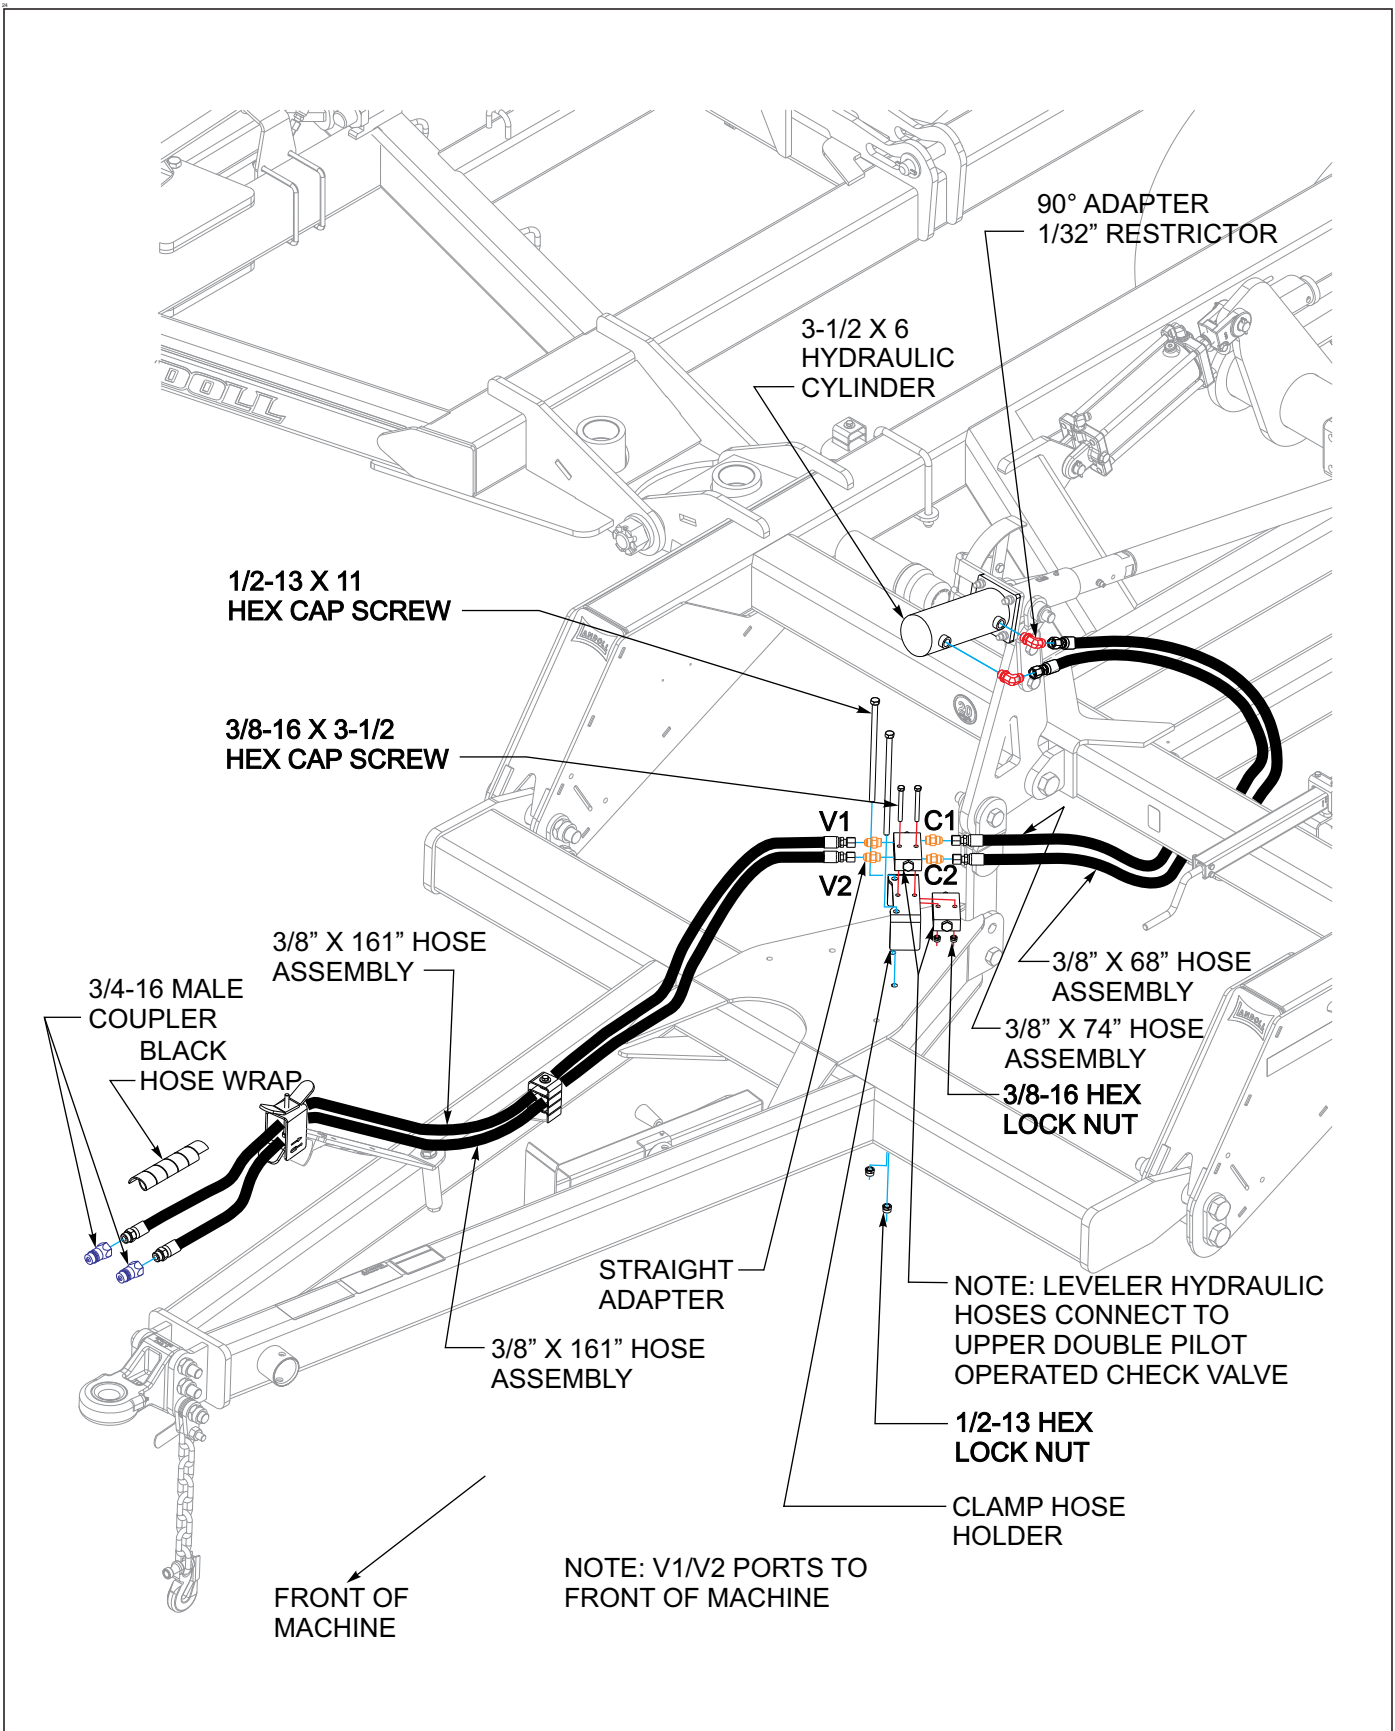
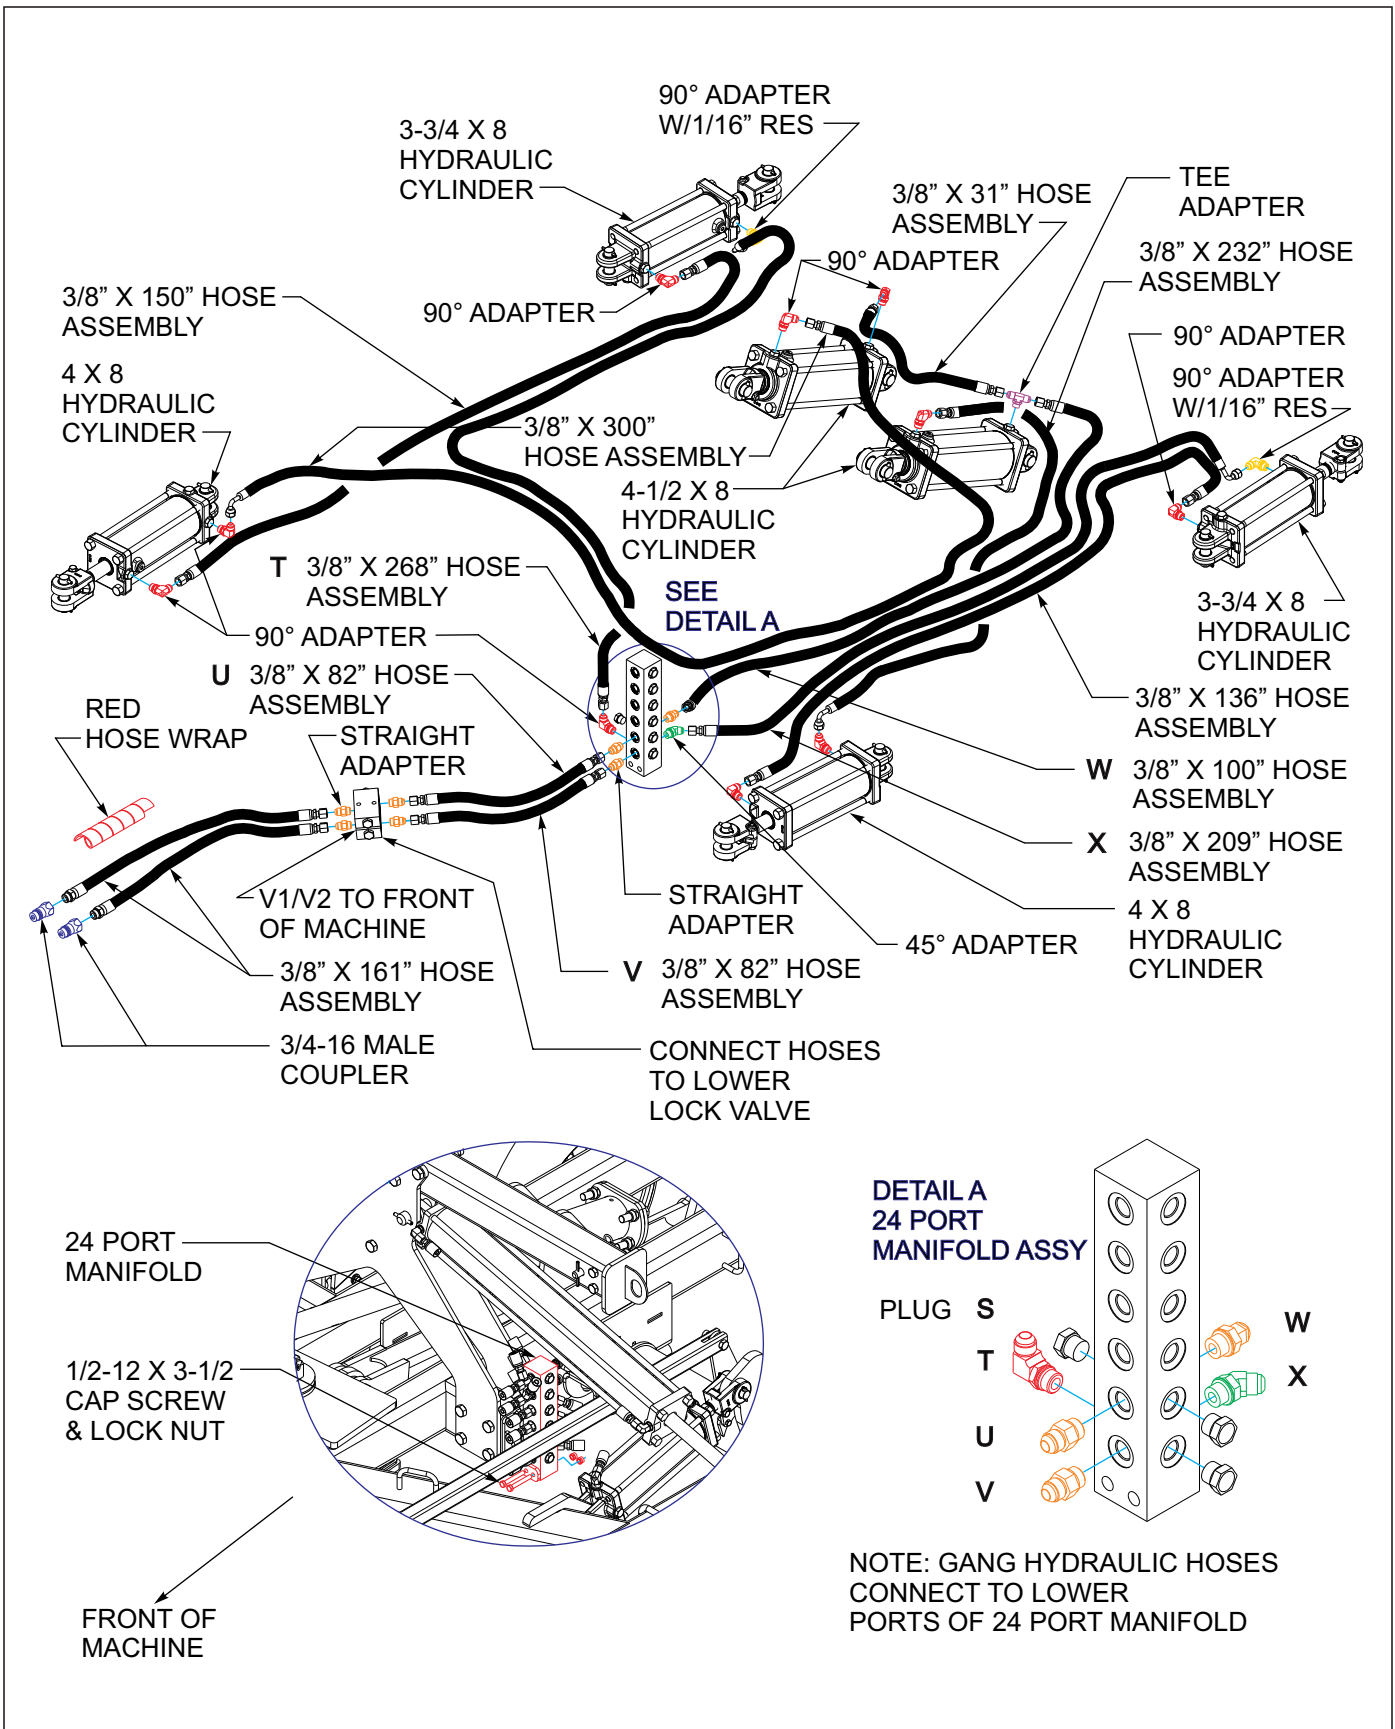

Figure 3-21: Leveler Hydraulic Installation
Figure 3-28: Gang Hydraulic Installation 7530-23'
*For leveler hydraulic installation (**See Figure 3-21.**)*
Refer to Figures 3-21 for leveler hydraulic diagram for all models.
5. The leveler cylinder is pre-assembled with 1/32" restricted fittings that are red in color (See Figure 3-21.) They will need to be orientated to face the rear of the machine.
6. At the rear of the hitch (See Figure 3-6.) there will be two identical valves installed (Double Pilot Operated Check Valves) with 3/8 x 3-1/2" bolts and nuts onto the hose clamp. Install these valves with the V1/V2 ports facing the tractor and the C1/C2 Ports facing the rear. Install straight o-ring adapter fittings into each of the 8 outlets. When plumbing the hydraulic disc gangs or the leveler it does not matter which hose goes to C1/C2 or V1/V2, leveler hydraulics (upper valve, See Figure 3-28.) or gang hydraulics (lower valve, See Figure 3-21. 7530-23'/26'/29'/32'/35'), just so they are facing the correct direction and hooked to the cylinder or the tractor correctly.
9. Install Leveler cylinder hoses and couplers (See Figure 3-21.) Wrap leveler hoses with black hose wrap.